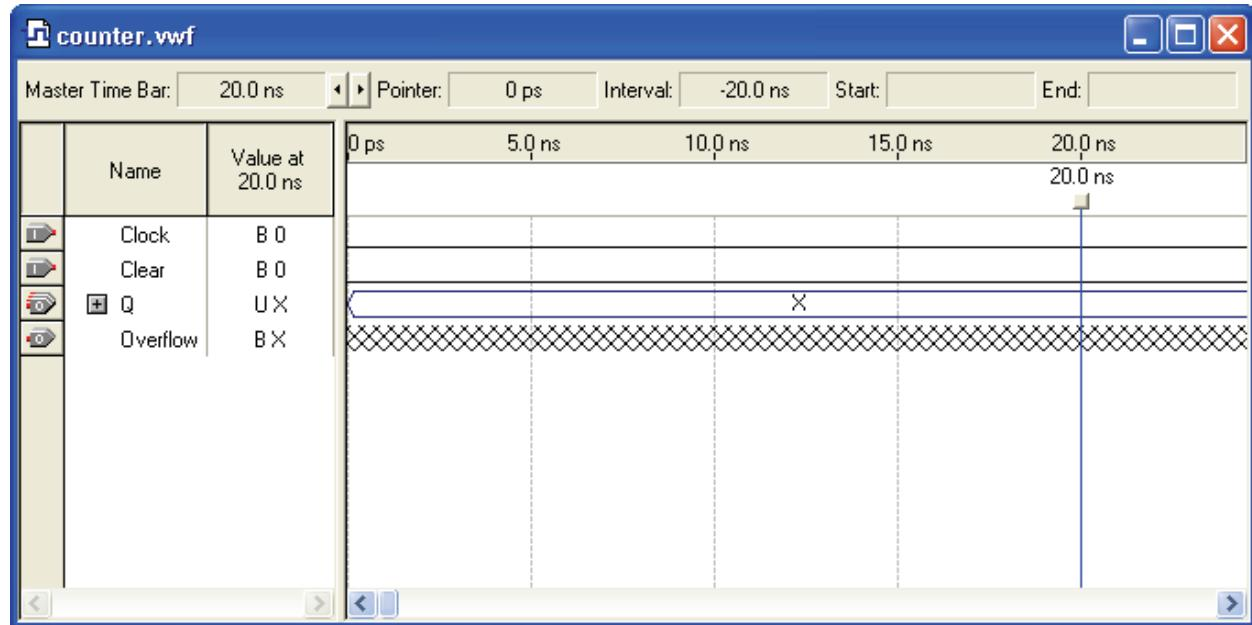

Figure B.8 The Vector Waveform window after rearranging the signals.
1. For this tutorial, move the signal `Clock` from where it is to be the first signal listed as shown in Figure B.8.